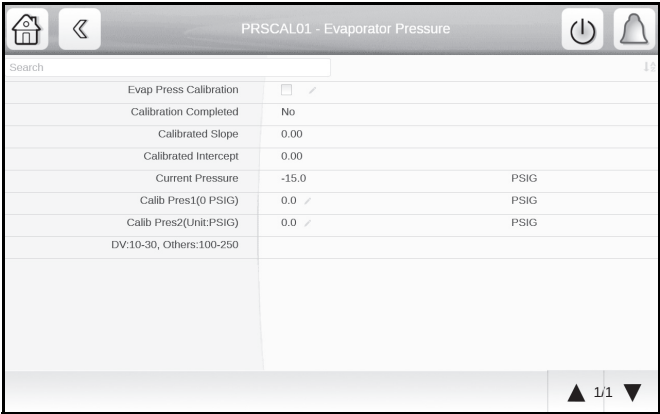

Fig. 34 — Evap Pressure Sensor Screen
- 2. Each transducer is supplied with 5 vdc from the IOB. Calibration is done by selecting the appropriate Pressure Sensor option on the Pressure Sensor Calib screen. The screen for the selected option is displayed. Figure 34 shows the Evap Pressure Sensor screen (PRSCAL01 as an example).